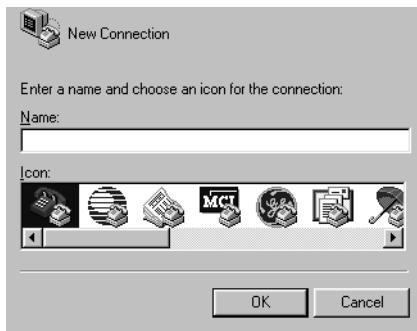

Figure 6: New Connection dialog box
4. Choose **Start > Programs > Accessories > Communications > HyperTerminal**. The New Connection dialog box displays (Figure 6).